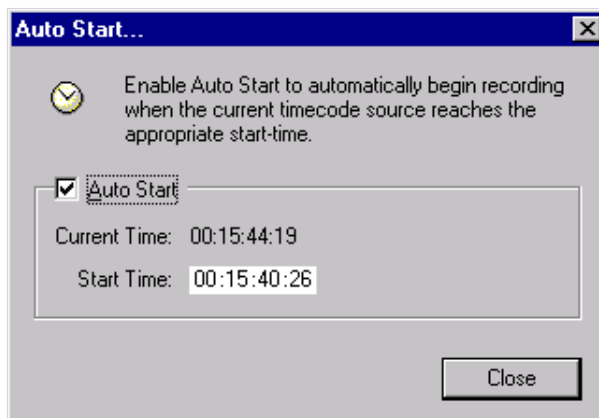

Figure 174. The Auto Start dialog box
3. In the Record Panel, click the **Auto Start** button, or choose **Config | AutoStart**. The Auto Start... dialog box appears (see Figure 174).